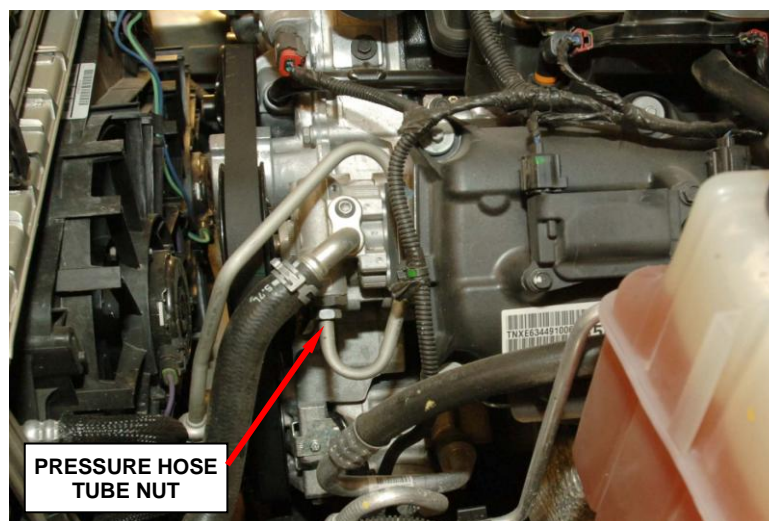

Figure 18 – 5.7 Hemi Engine Shown
6. Unthread the tube nut at the power steering pump and disconnect the power steering pressure hose (Figure 18).